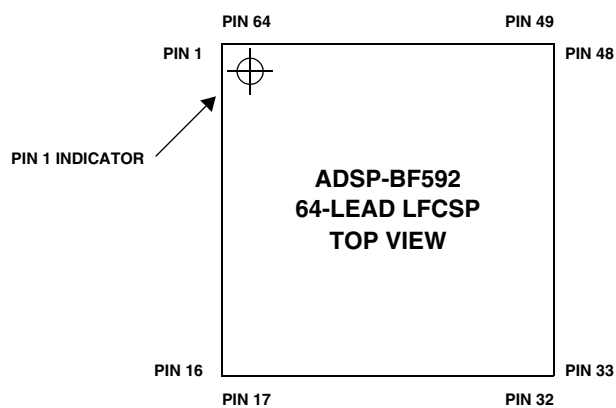
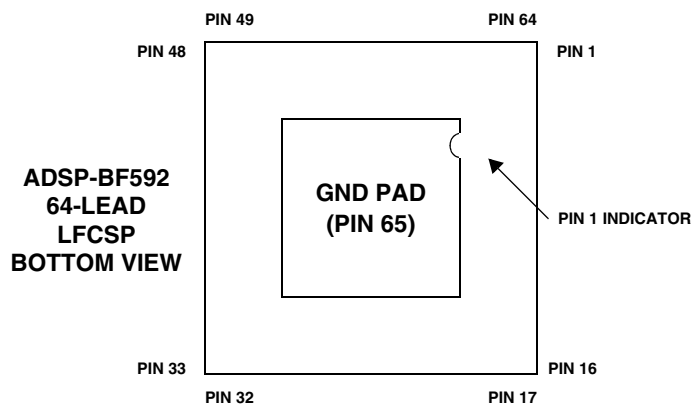

Figure 43. 64-Lead LFCSP Lead Configuration (Top View)
Figure 44. 64-Lead LFCSP Lead Configuration (Bottom View)
* Lead no. 65 is the GND supply (see Figure 43 and Figure 44) for the processor (6.2 mm × 6.2 mm); this pad **must** connect to GND.
* Pin no. 65 is the GND supply (see Figure 43 and Figure 44) for the processor (6.2 mm × 6.2 mm); this pad **must** connect to GND.
Figure 43 shows the top view of the LFCSP lead configuration.
Figure 44 shows the bottom view of the LFCSP lead configuration.